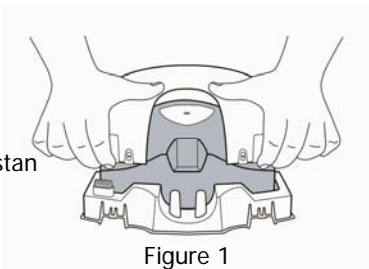

Figure 1
1. Open the torso of the Prestan Professional Manikin by popping the 'tabs' located on the shoulders of the Prestan Professional Manikin and carefully lifting up the torso frame. Do not lift by tabs. (Figure 1).